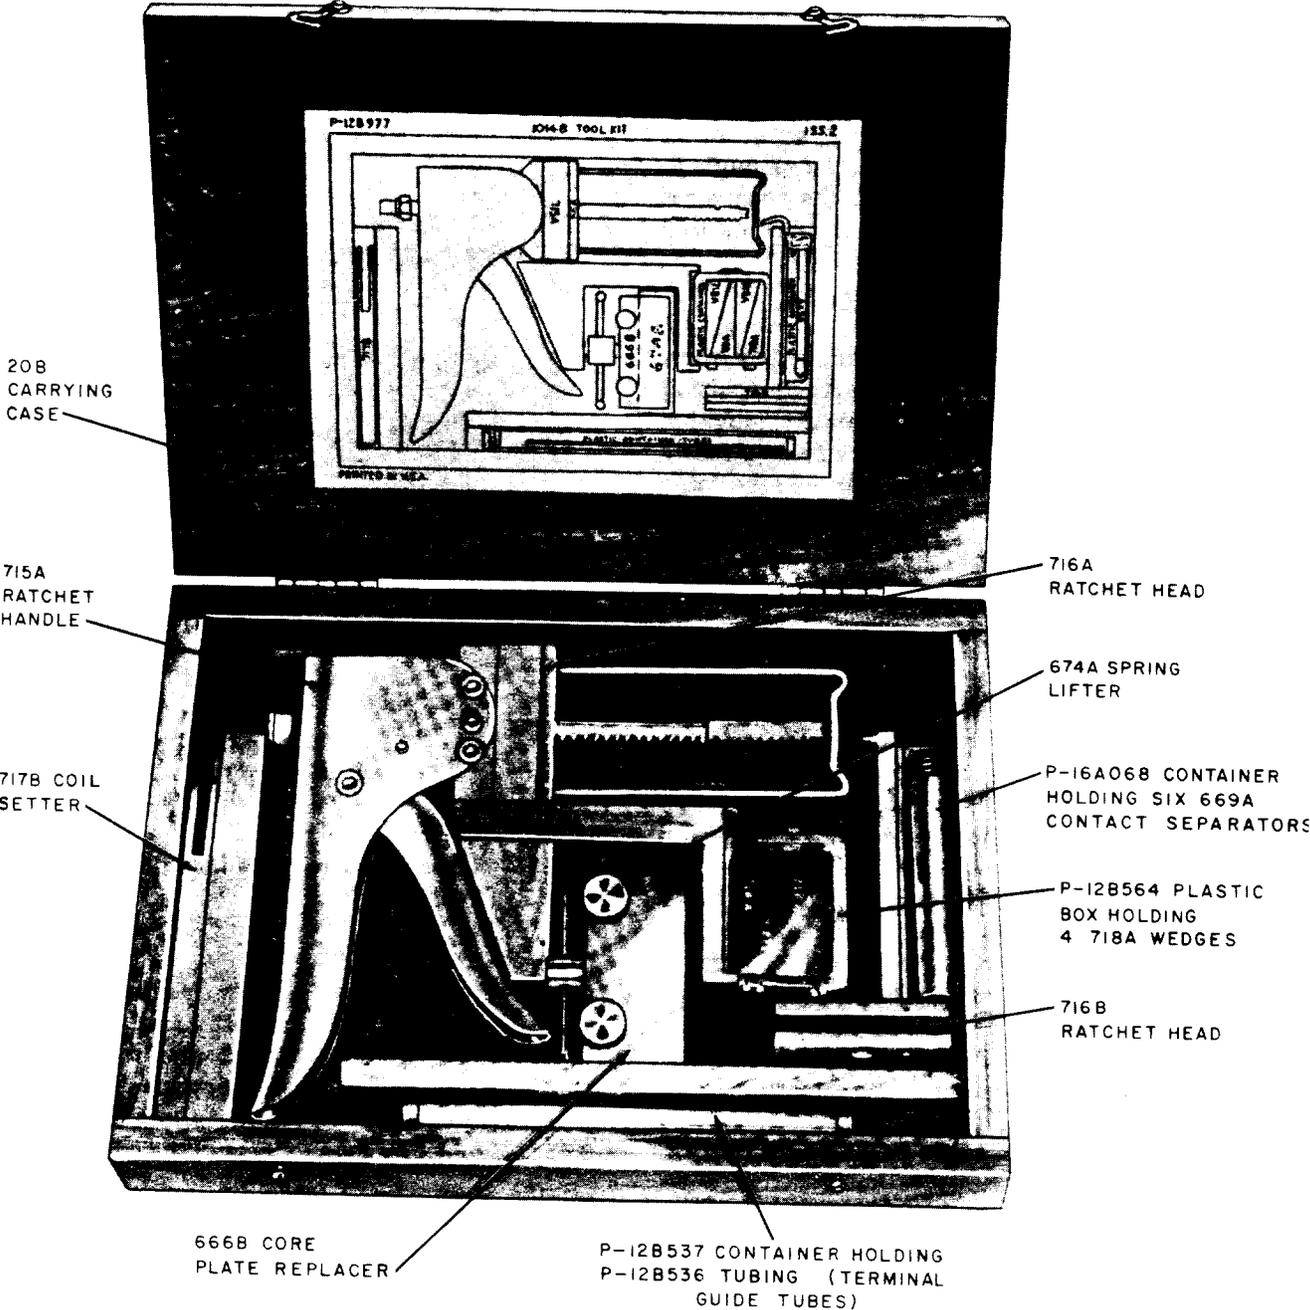

Fig. 14—1014B Tool Kit
**3.34 1014B Tool Kit:** Figure 14 shows the tools comprising the 1014B tool kit used for replacing coils on wire-spring type relays. The 716B ratchet head and P-12B536 terminal guide tubes furnished with the tool kit are not required for 286-, 287-, and 288-type relays. The guide tubes are used for AF-, AG-, AJ-, and AK-type relays. The 716B ratchet head is used only for AK-type relays. To prepare the ratchet handle and head for use, proceed as follows.